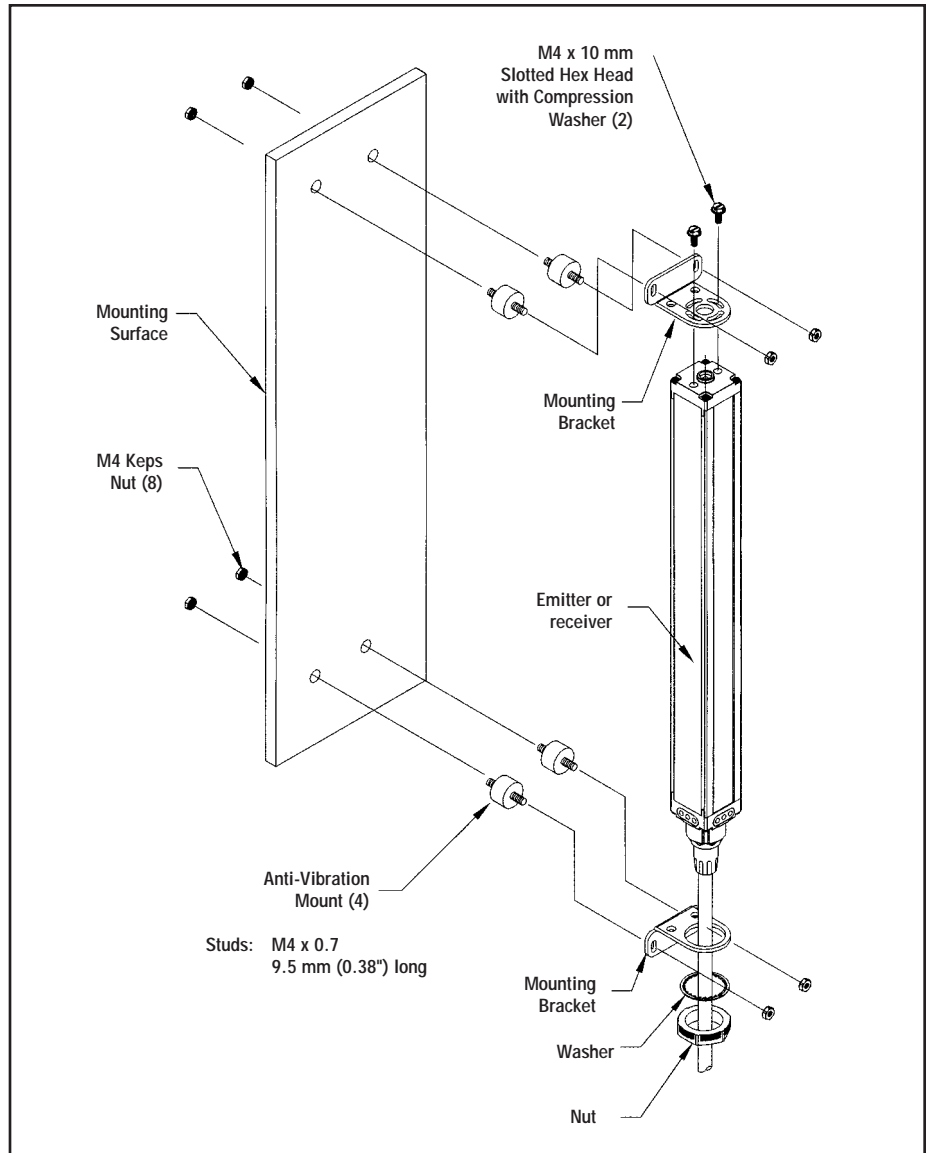

Figure 13. Emitter and receiver mounting hardware
**Important: The connector ends of both sensors must point in the same direction (see drawings and WARNING, page 17).** Mount the emitter and receiver brackets using the vibration isolators and M4 Keps nuts (all supplied); see Figure 13. Standard #8-32 bolts may be substituted (and the vibration isolators eliminated) in situations where the emitter and receiver are not subjected to shock or vibration forces. While the internal circuits of the emitter and receiver can withstand heavy impulse forces, the vibration isolators dampen impulse forces and prevent possible damage due to resonant vibration of the emitter or receiver assembly.